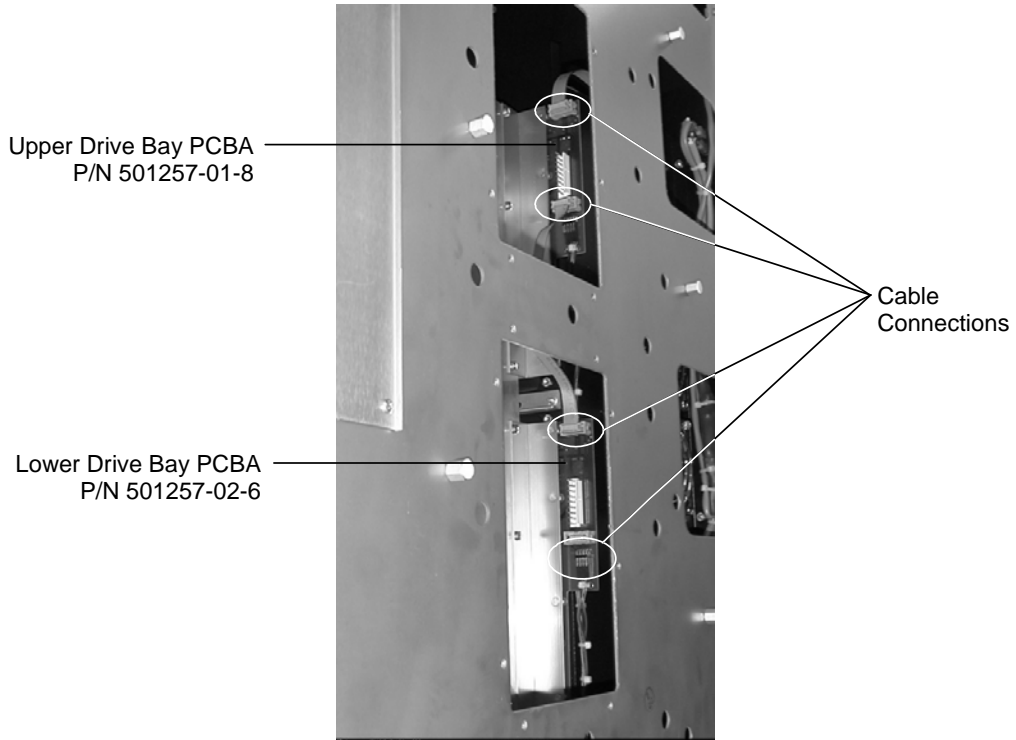

Figure 7-54 64xx Series Drive Bay PCBAs - Right Side of TLS
6. Disconnect all cables from the Drive Bay PCBA being removed (Figure 7-54).
11. Reconnect all cables to the Drive Bay PCBA (Figure 7-54).